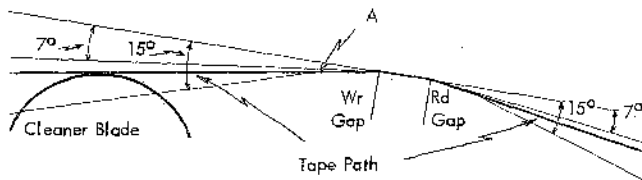

Figure 3-4. Tape Cleaner Wrap Angle
3. Unload the drive and observe the head; the powder will be wiped off the head where the tape has contacted the surface. Visual inspection should show that the apex at point A (Figure 3-4) has been wiped completely clean, indicating a tape approach of just over 7° .